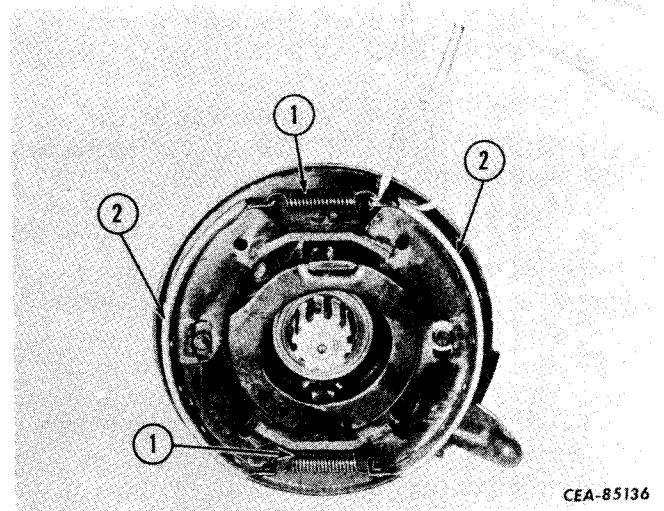

Figure 13-103
Using a brake spring pliers, remove the brake springs (1, Fig. 13-103) from the brake shoes (2) as shown.